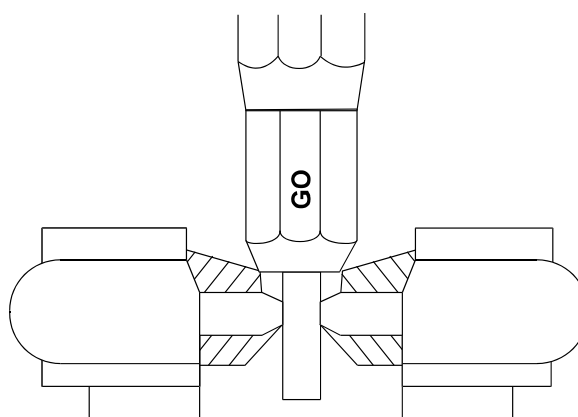

Figure 10-18 Testing a Crimp Tool
- d. Slide the gauge into the indenter opening and through the indenters. The gauge should pass freely through the indenters, as shown in Figure 10-18. If not, the tool should no longer be used until it has been repaired.